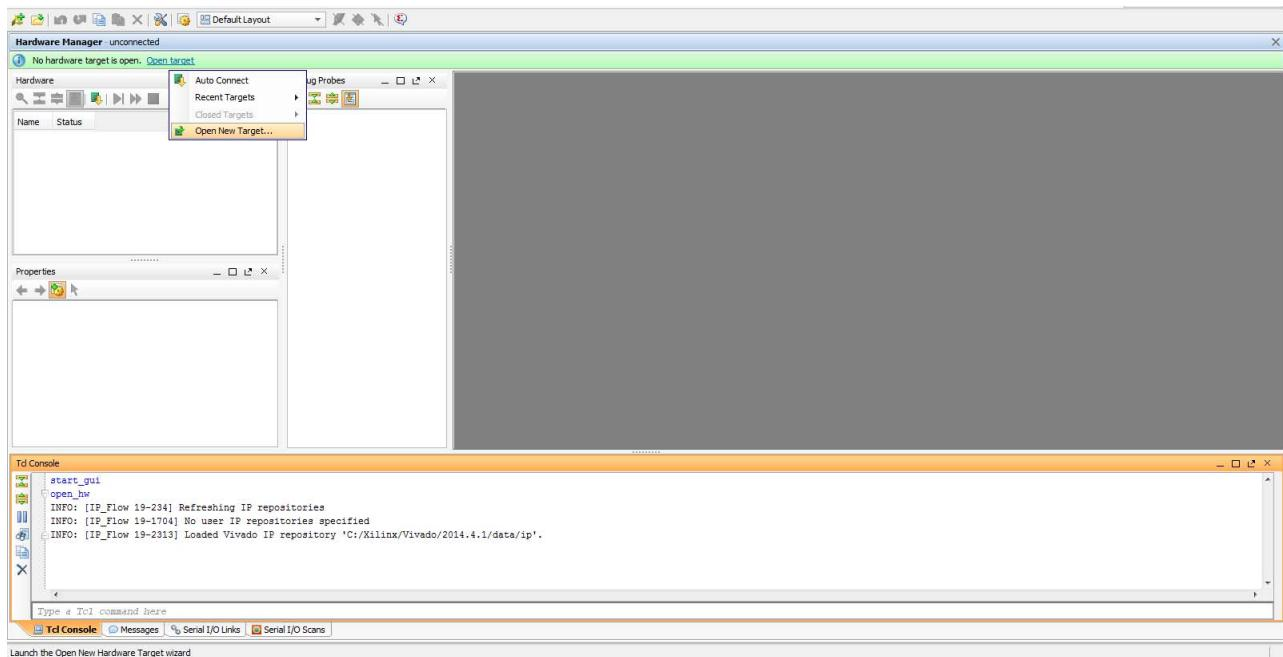

Figure 9: Programming the BIT File
3. Open the connection wizard to initiate a connection to the KCU105 board. Click **Open Target > Open New Target** (see Figure 9).